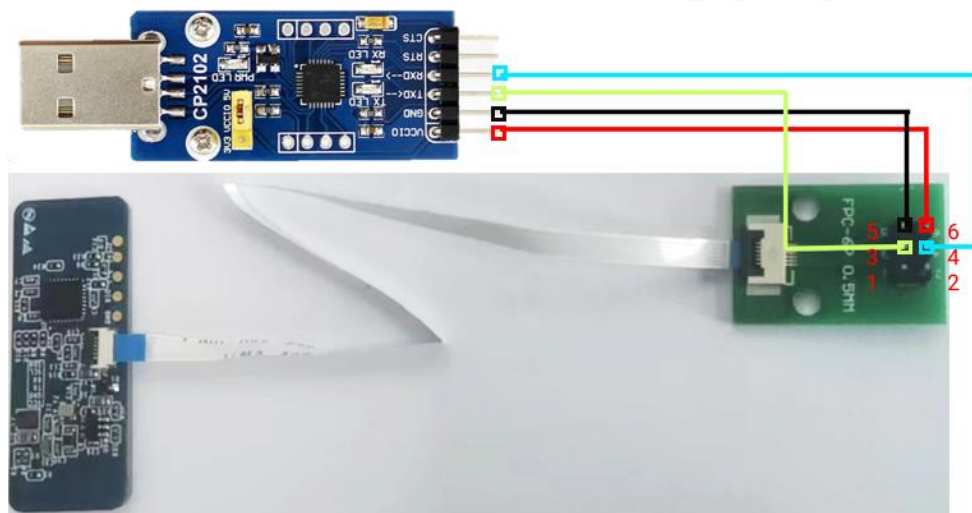

Figure 4-1 Example of connecting the Xen202 hardware, interposer board, and USB serial port tool
- a) Connect the Xen202 module to a USB serial port tool using an FPC interposer board and FPC soft cable, as shown in Figure 4-1.